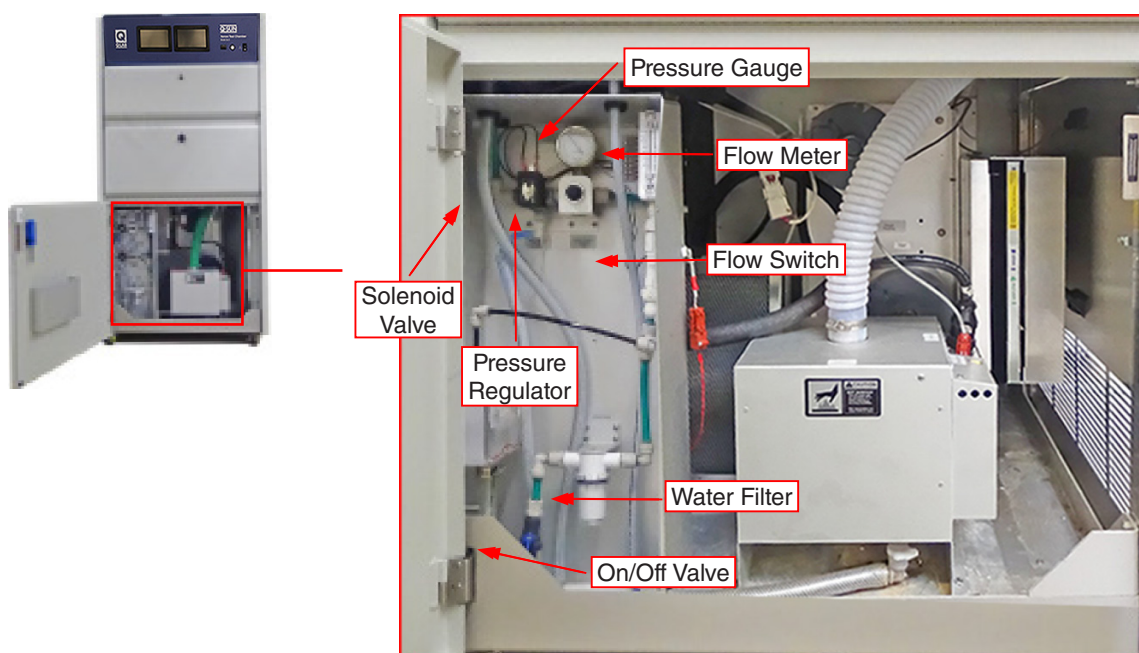

Figure 9.1c: Plumbing Box Inside Lower Front Door
- The front spray control system consists of a shut-off valve, water filter, flow switch, pressure regulator, pressure gauge, flow meter, and solenoid valve (Figure 9.1c).
- During normal operation, the front spray pressure gauge (Figure 9.1c) should read approximately 20 psi (138 kPa).